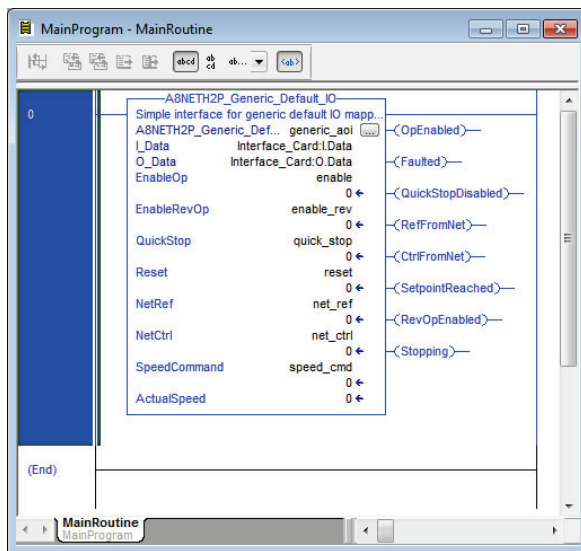

Figure 50: Configure Generic Default AOI
- 10) Edit the add-on instruction according to Figure 50.